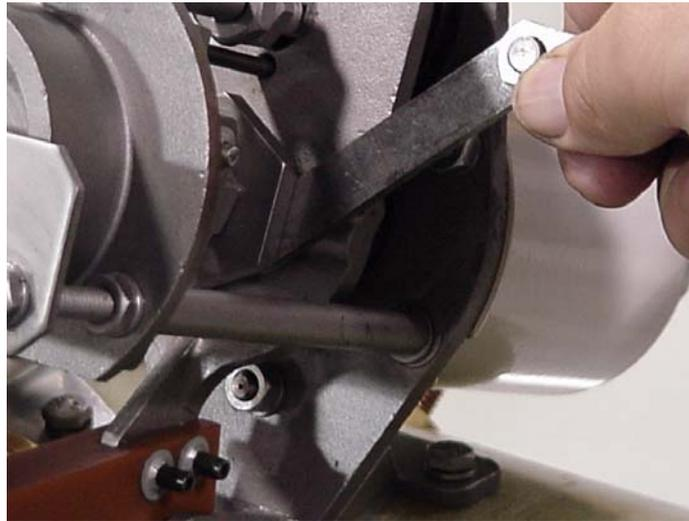

Fig. 1: Checking the interrupter bottle pre-travel
3. With the mechanism on position and the interrupter closed, check the vacuum bottle pre-travel by measuring the gap between the drive nut and upper actuator arm on each vacuum interrupter as shown in Fig.1 below. This gap should be .125" +/- .010". This is required to control the opening impact.